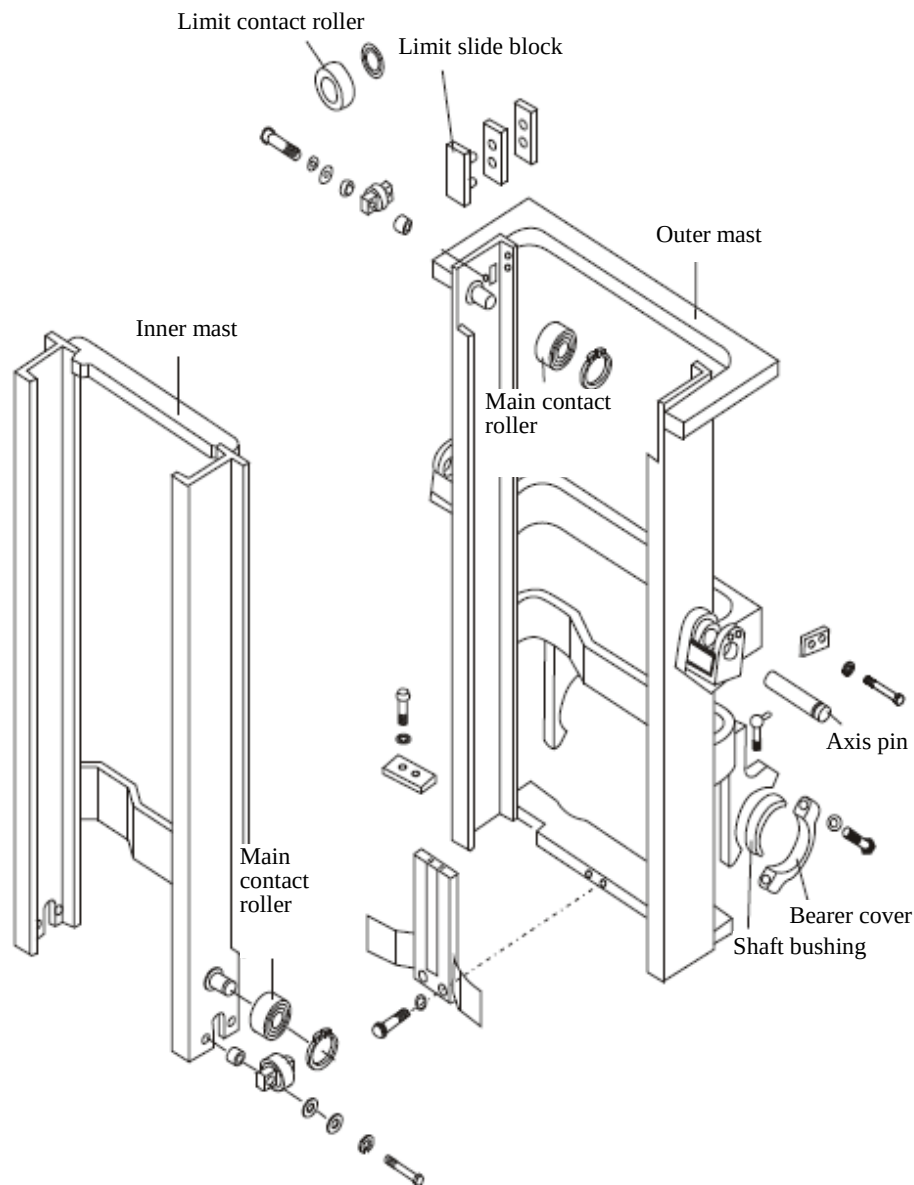

Fig. 6-1 Inner and Outer Masts
6.1.1 Inner and outer masts (see Fig. 6-1)